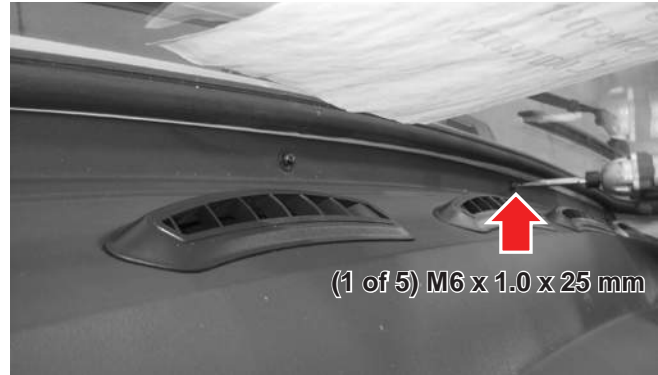

Figure 7-1
1. Remove the screws and washers and set aside for reinstallation (see *Figure 7-1*).